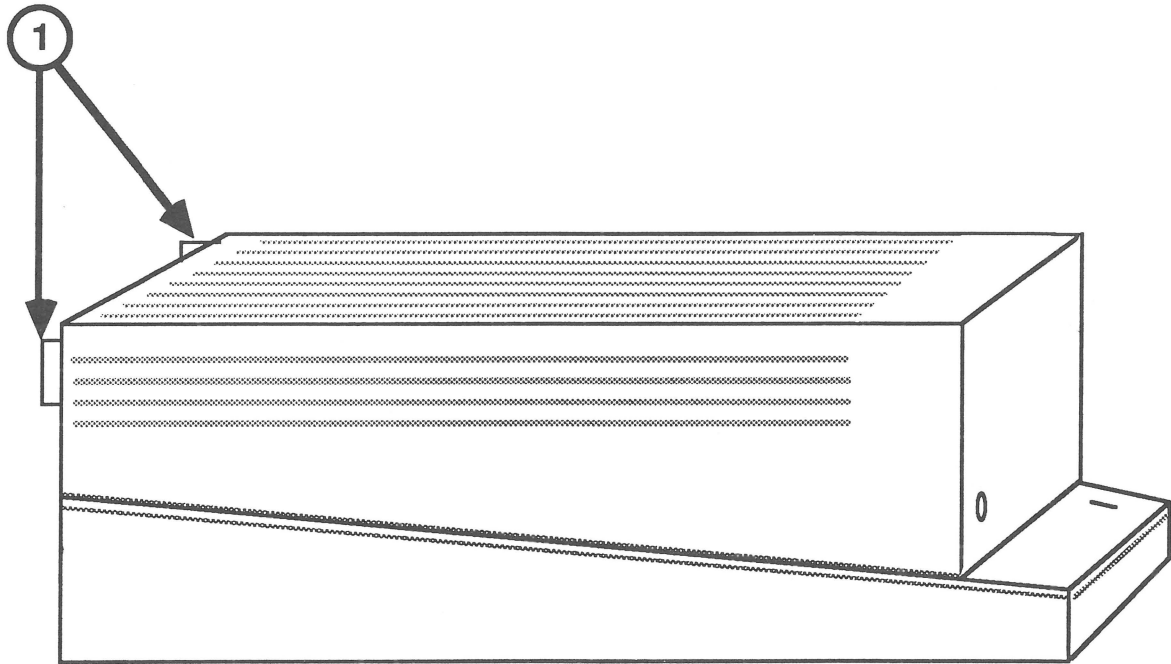

FIGURE 1
3. Locate the tabs on the back of the machine (Figure 1, #1), one on each side. Push the tabs in with your index fingers and lift the top cover, back first, from the machine. No force is necessary. (Do not push down on the top of the machine with your thumbs.)